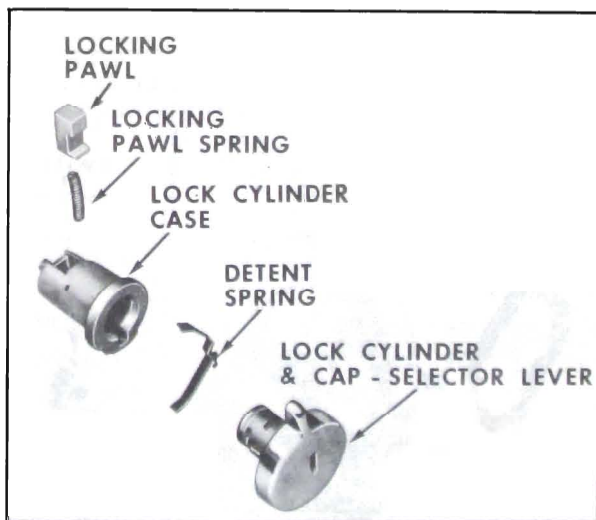

Figure 4-23—Disassembly of Outside Handle Lock Cylinder and Case
3. Insert a piece of wire (paper clip) in hole on face of lock cylinder cap (selector lever). While holding lock cylinder case, depress plunger with wire sufficiently to allow key and selector lever to be turned counterclockwise approximately 1/8 turn; then, remove lock cylinder and cap (selector lever) assembly from handle assembly (Figure 4-23).
NOTE: When removing lock cylinder and cap assembly from case, place finger over locking pawl to prevent pawl and spring from popping out (Figure 4-23).